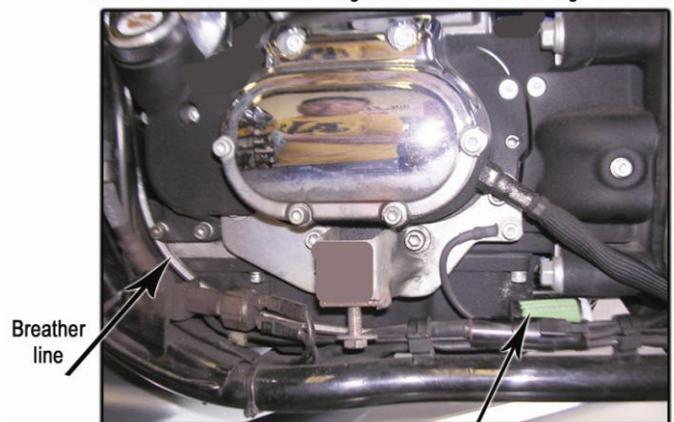

Fig. 9
8. The filter element should fit on the inside of the right frame rail in the area between the engine and transmission. Use the supplied zip ties to hold the filter and breather line in place, make sure the breather and line is secure and will not interfere with any components. (see figure 9)